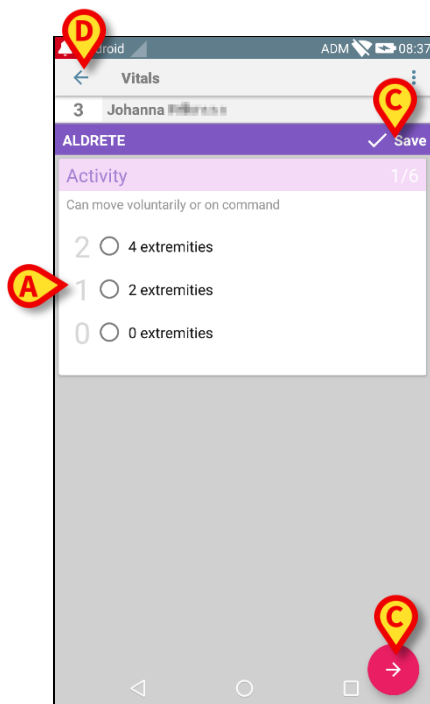
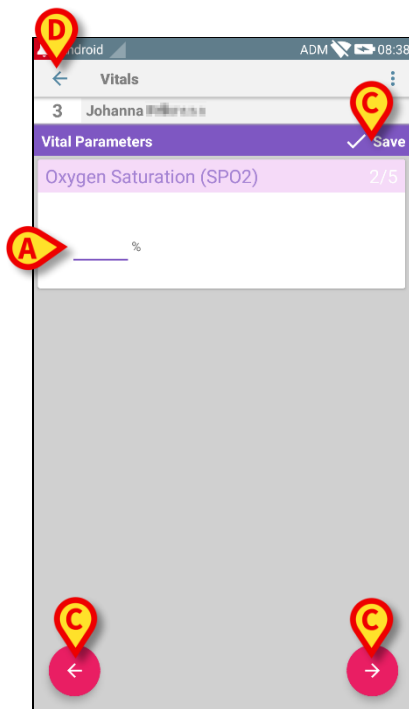

Fig 66
Fig 67
NOTE: the data entry screen features depend on the kind of dataset selected. See Fig 66 for an example.
See Fig 67 for another example.
- Insert the required value/s on each screen (Fig 66 **A** and Fig 67 **A**).
- Move to next/previous screen using the arrows indicated in Fig 66 **B** and Fig 67 **B**.
- Touch **Save** to save the dataset (Fig 66 **C** and Fig 67 **C**). The **Cancel** option (Fig 66 **D** and Fig 67 **D**) closes the data entry screen.